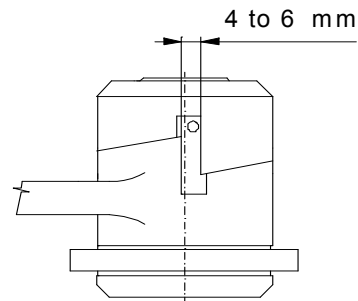

Fig. 5
Proceed in the opposite way when assembling. Slip over the hub (1) the friction insert (2B); ratchet (3) and second friction insert (2A). Set it in the crank arm (7), slide on the spring (4) and screw on the nut (5). Tighten the nut so that the clearance in the dent is from 4 to 6 mm (see fig. 5) and screw down the screws (6).